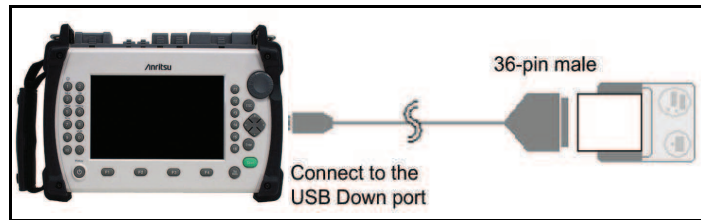

Figure 8-15: Connecting the BL-80RII Printer
Connect the MT9083 Series to the BL-80RII printer using a USB printer conversion cable as shown below in Figure 8-15.
1. Connect the BL-80RII printer to the MT9083 Series as shown in Figure 8-15, and then power up the printer.